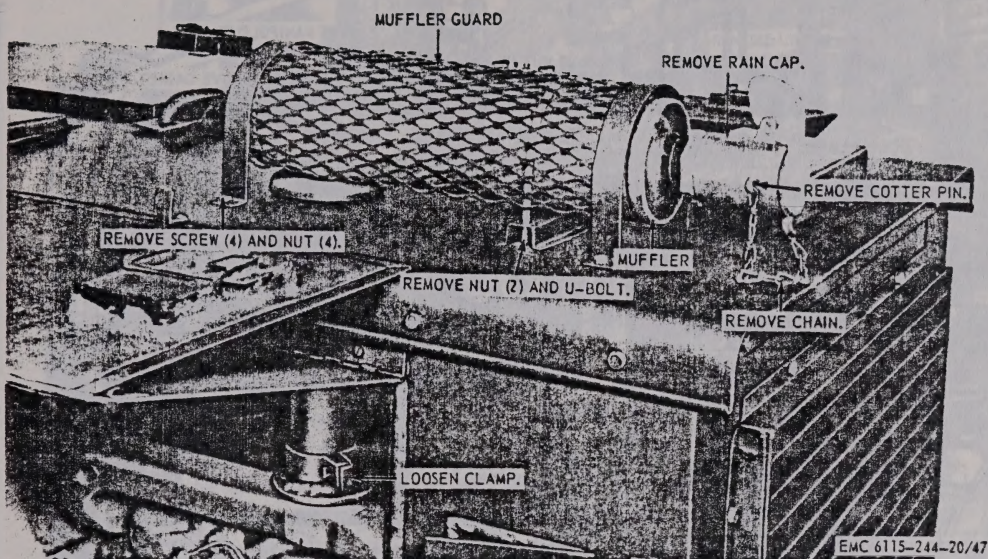

Figure 47. Muffler guard, muffler, and raincap, removal and installation.
a. *Removal.* Refer to figure 47 and remove the muffler guard, muffler, and raincap from the generator set.
(1) Clean all parts, using a cloth dampened with an approved cleaning solvent and dry thoroughly.
(2) Inspect the muffler for burned or rusted spots, holes, broken or cracked welds, and other damage. Inspect the raincap, muffler guard, and mounting hardware for cracks, breaks, and other damage.
(3) Replace all parts that are excessively damaged, worn, or defective.
c. *Installation.* Refer to figure 47 and install the muffler guard, muffler, and raincap on the generator set.